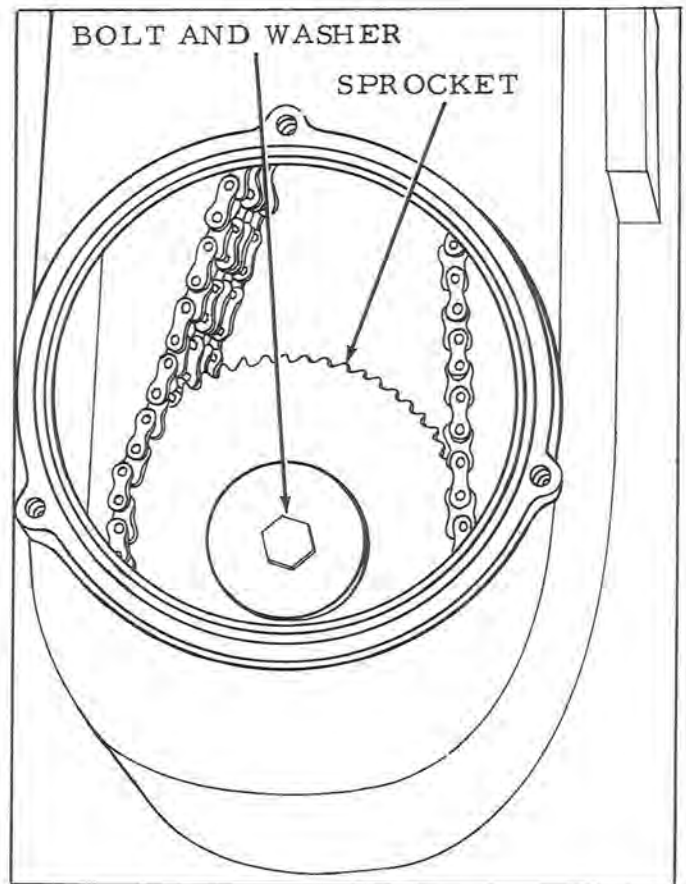

Figure 4
11. Remove the bolt and washer from the end of the drive shaft (See Figure 4). Tap on the drive sprockets with a hammer. Tap them to the right side. This will free the drive shaft from the gear shaft.